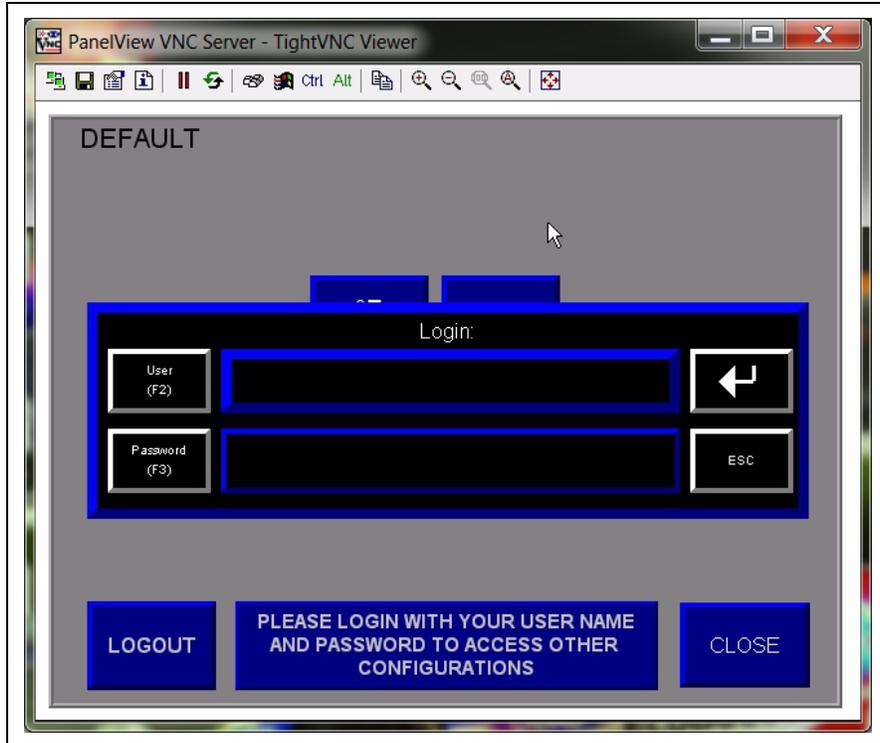

Figure 3C
3. The login window appears as shown in *Figure 3C*.